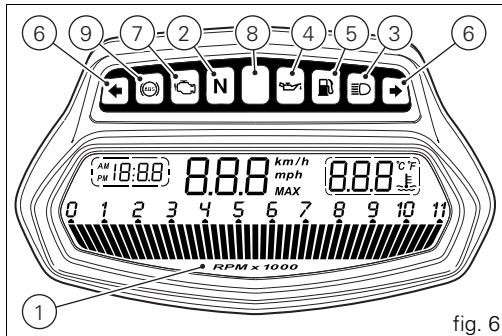

fig. 6
- 8) Limiter light "Over rev"/ traction control light "DTC" (RED) (fig. 6):
- 9) ABS LIGHTS  (AMBER YELLOW) (fig. 6).
In the event of a sensor "error", a string of flashing dashes ("—") is shown and the "Engine/ vehicle diagnosis - EOBD" light (7, fig. 6) comes on.